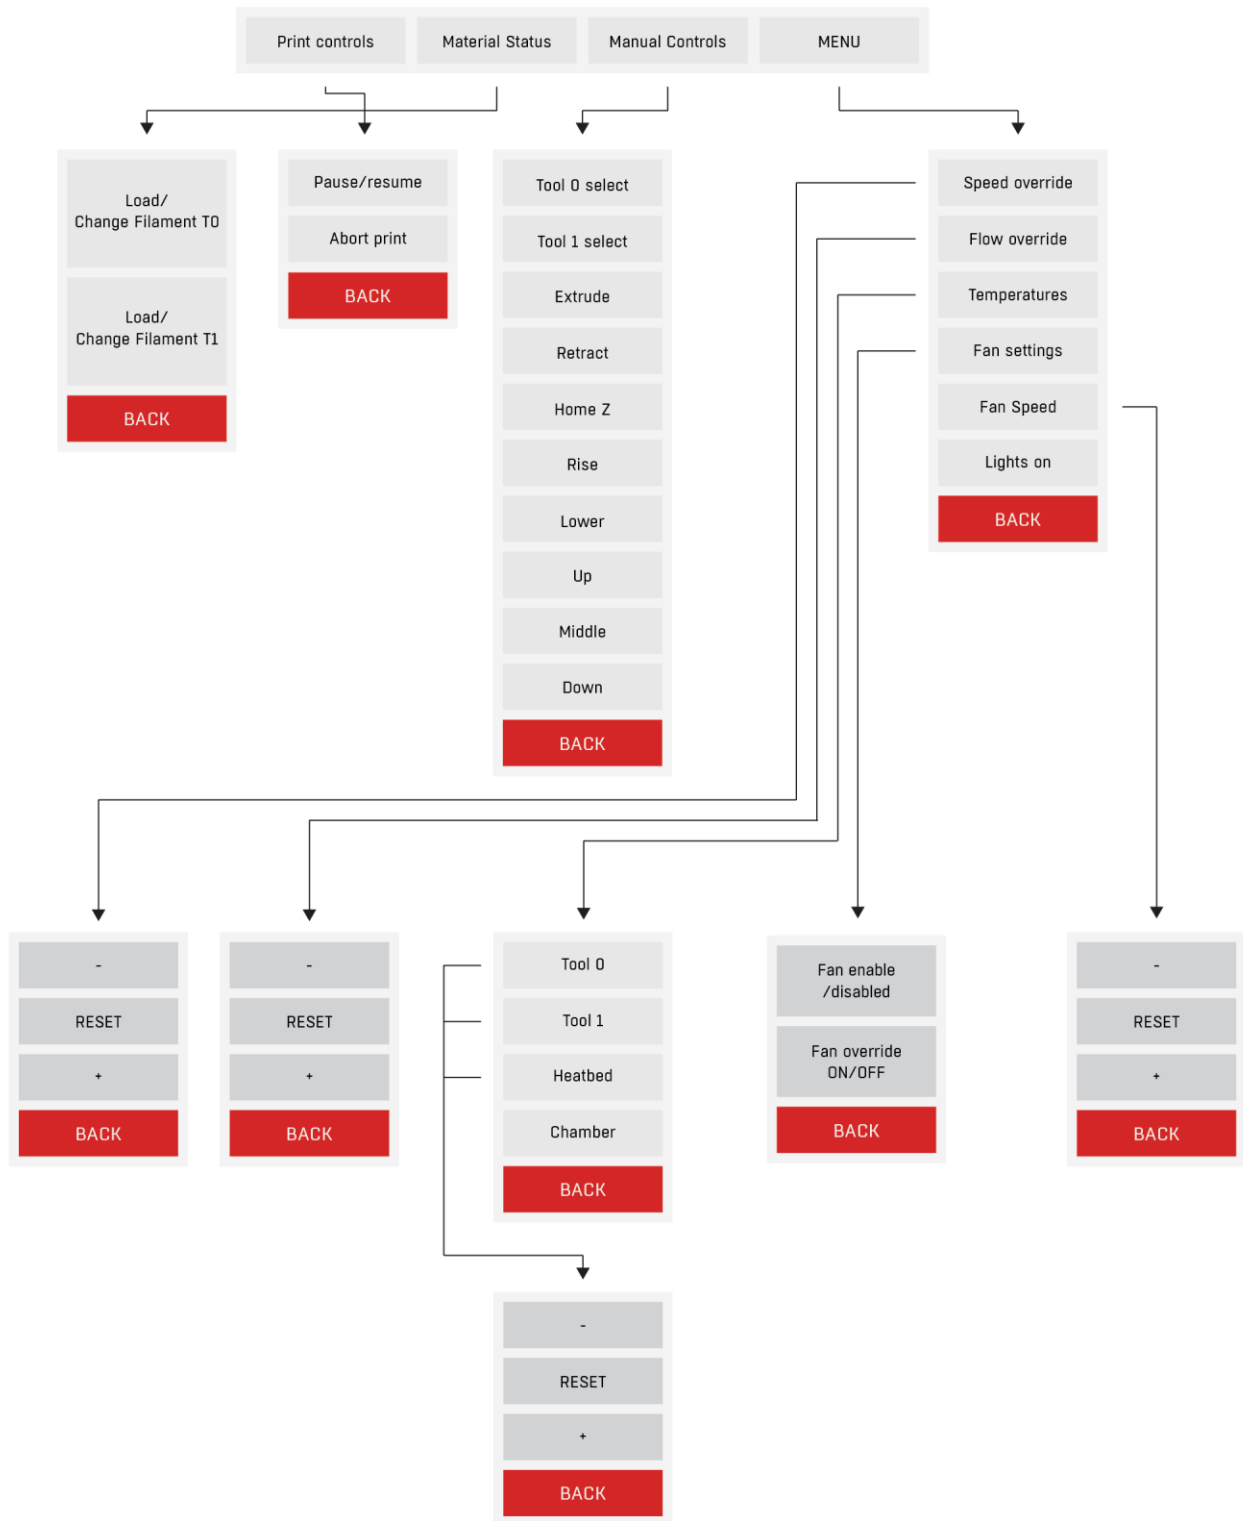

Fig. 54 Main menu structure in working mode
- main menu in working mode (MAIN) – fig. 54.